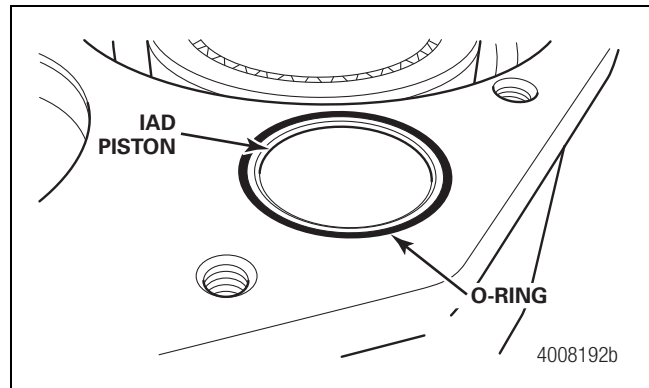

Figure 24
2. Remove the O-ring from the groove around the IAD piston on the housing face. Figure 24.